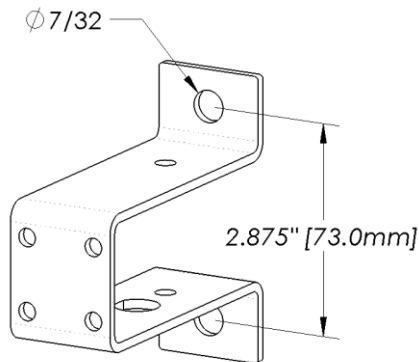

Figure 2 – Transducer Protocol Station Mounting Bracket
1. The Transducer Protocol Stations shall be securely fastened to a wall using fasteners appropriate for the wall construction. All models use the same mounting bracket - mounting dimensions are provided in Figure 2.